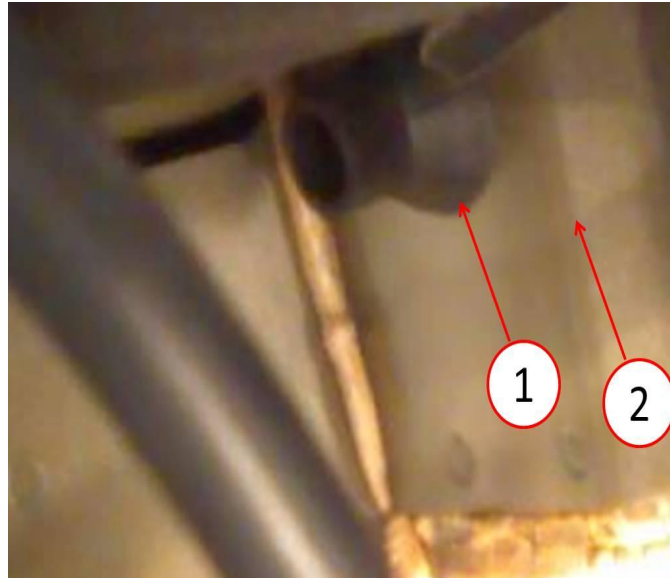

Fig. 4 Drain Tube Grommet Seated
6. Verify the grommet is correctly seated in the bulk head using a mirror and position it behind the strut tower looking at the upper right corner (Fig. 4).